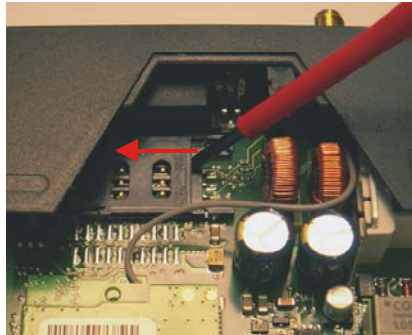

figure 2-5
6. With a suitable object open the flap of the SIM card holder by moving it cautiously about 2 mm to the left - in the direction of the arrow (see red arrow in figure 2-5) so that it can be raised.